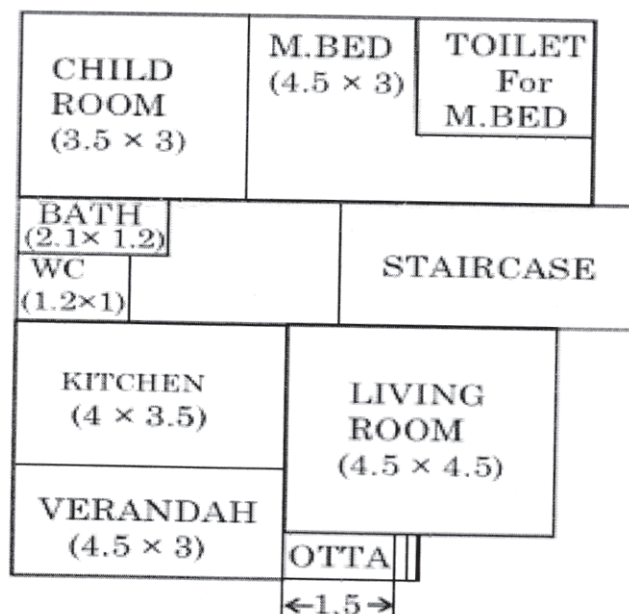

Fig.1
- b) A line plan of a residential building is shown in following figure 1. Draw detailed floor plan with 1:50 or suitable scale. Use the following data:[13]